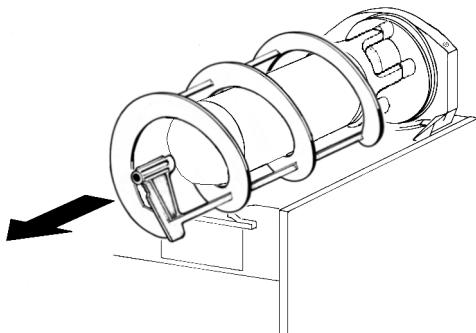
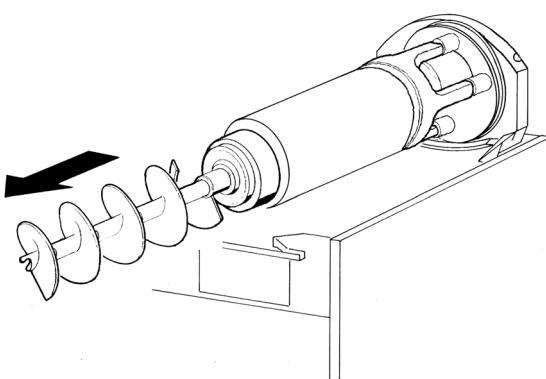

figure 6
figure 7
- 3** Slide the outer spiral out (see figure 6) and then the inside auger (see figure 7).